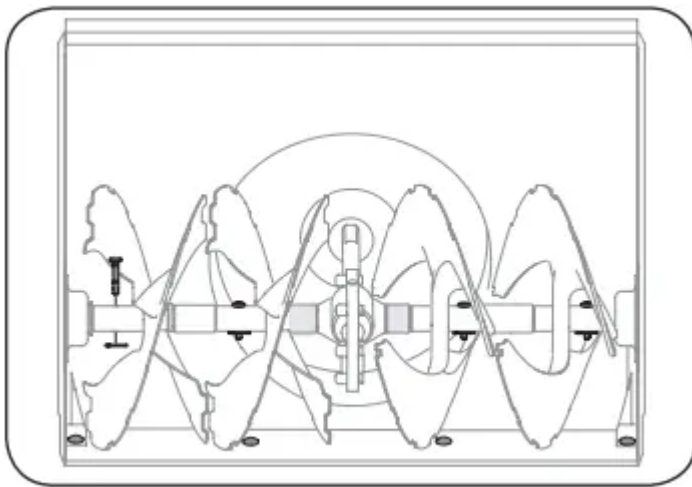

Figure 58
- At least once a season, remove the shear pins on auger shaft. Spray lubricant inside shaft, and around the spacers and flange bearings found at either end of the shaft. See Figure 58.